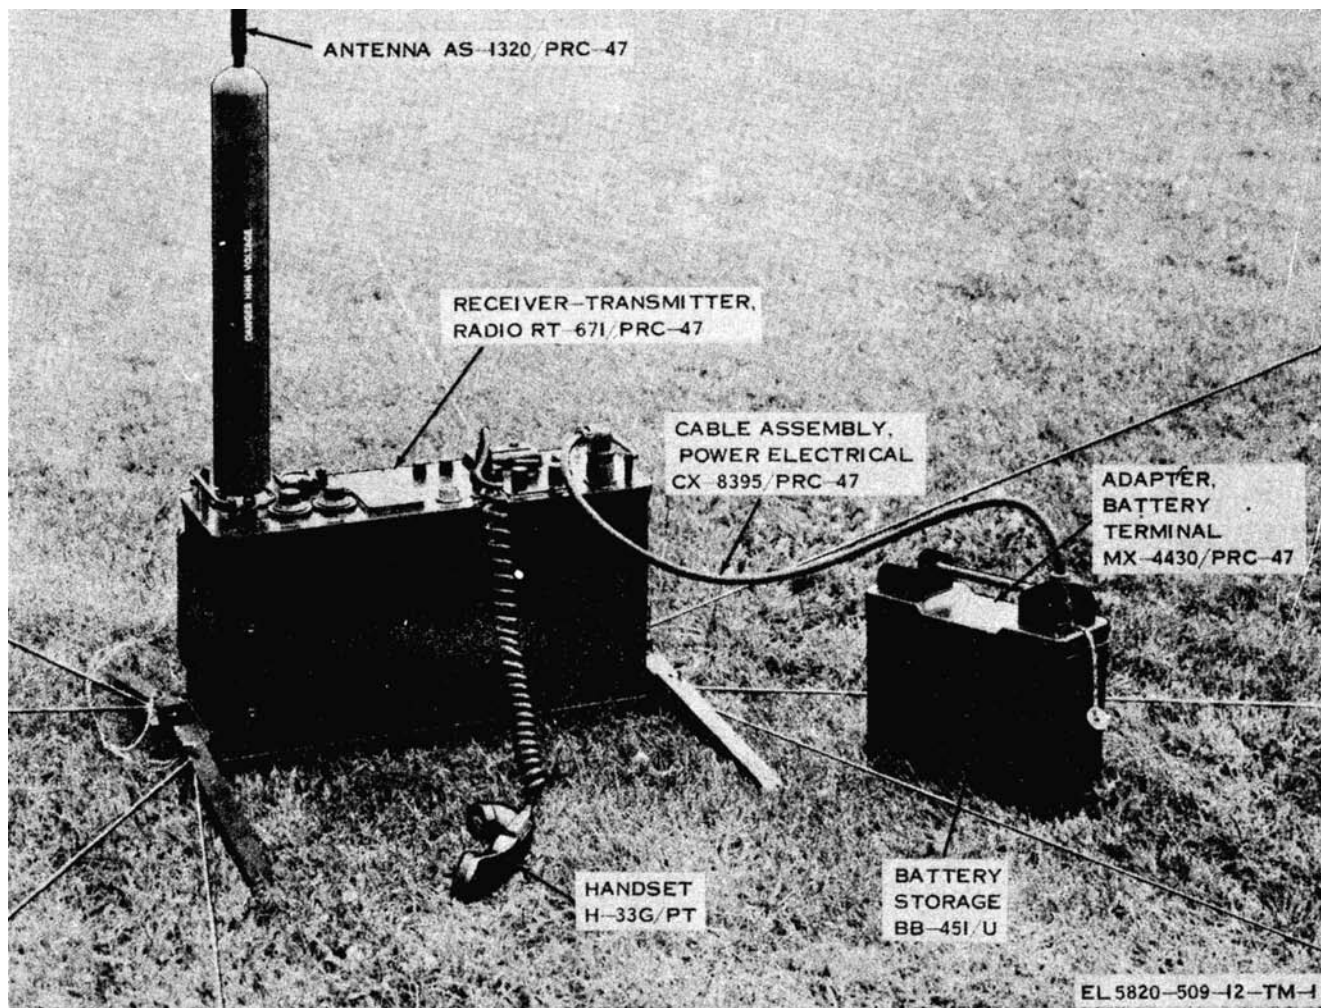
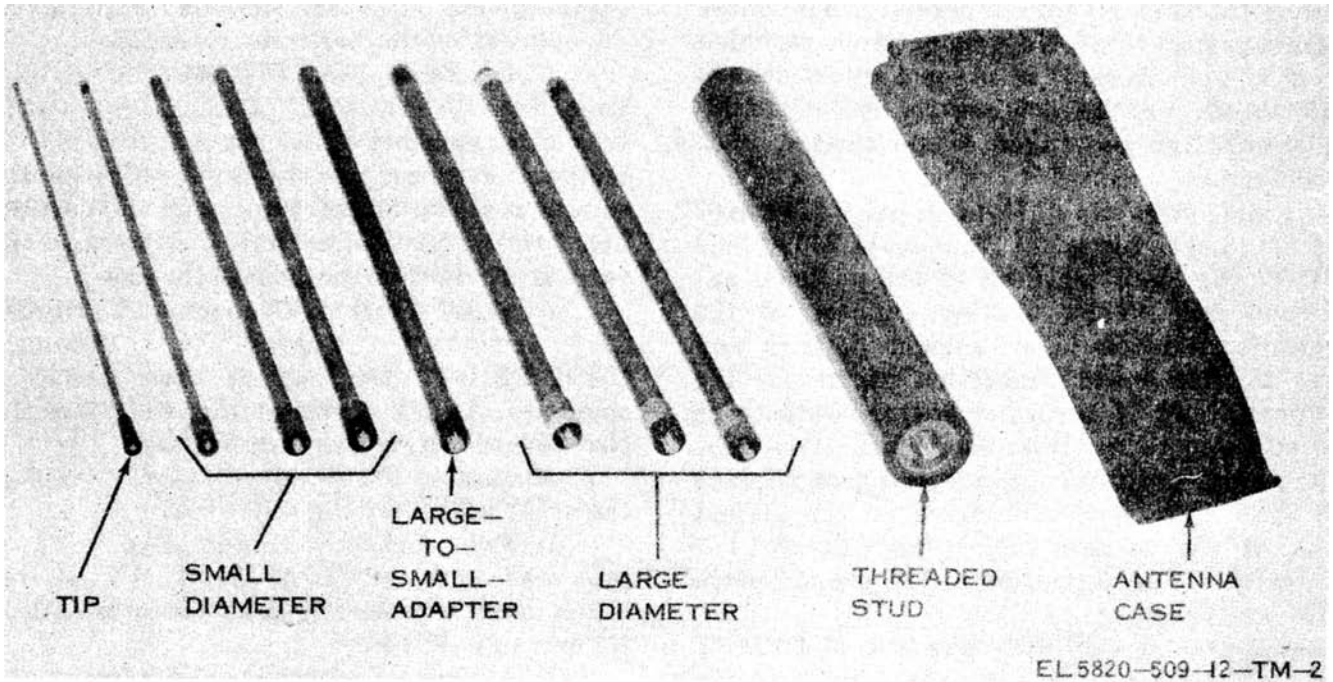

Figure 1-1. Radio Set AN/PRC-47
Figure 1-2. Antenna AS-1320 PRC-47
This manual describes Radio Set AN /PRC-47 (fig. 1-1) and includes instructions for installation, operation, organizational maintenance, shipment and limited storage, and demolition to prevent enemy use. The manual provides instructions for operation under usual and unusual conditions, and includes procedures for the cleaning, inspection, and maintenance of the AN/PRC-47 by the operator and organizational maintenance personnel. The repair parts list is contained in Appendix B and the maintenance allocation in Appendix C.
*a. Purpose.* Radio Set AN/PRC-47 (fig. 1-1) is a high frequency radio communications system. The radio set primarily provides 10,000 channels of upper sideband (usb) voice transmission and reception, continuous wave (cw) telegraphy, or frequency shift keying (fsk) teletype in the 2,000- 11,999-mHz frequency range. The radio set can be operated from its own control panel or controlled by a remote power control panel, such as Control Group AN/GRA-6, for at least a 2-mile distance.
Radio Set AN/PRC-47 (fig. 1-1) consists of several major units and a number of accessories that are required for operation. These major units are a receiver-transmitter, a silver-zinc battery, a power cable for battery (portable) operation that connects to a battery terminal adapter, a handset, and a whip antenna (fig. 1-2). In addition, an ac cable and a dc cable are provided for fixed station and vehicular operation respectively (fig. 1-3). The radio set is divided into two parts for portage; each part being attached to a separate rucksack frame for ease of handling (fig. 1-4). One frame carries the battery retainer and battery, battery cable, whip antenna, and accessory items required for portable operation. When desired to store the equipment, or when necessary to ship' the equipment, a radio set case (fig. 1-5) is provided. The case is waterproof and compartmentalized to protect the individual radio set units and accessories, and is equipped with carrying handles that permit easy handling. The radio set units and accessories are described below.
*d. Antenna AS-1320/PRC-47.* Antenna AS-1320/PRC-47 (fig. 1-2) is a 15-foot whip antenna that is used in conjunction with the ground-plane radials attached to Legs, Electrical Equipment MT-2786/PRC-47. The antenna is sectionalized into eight 20-inch sections plus a 20 inch threaded stud and is stowed in a canvas carrying case attached to the accessories rucksack frame (fig. 1-4).
(b) Assemble the antenna before attaching it to the Receiver-transmitter Begin assembly from the large-diameter diameter threaded stud and work toward the tip section (fig. 1-2).